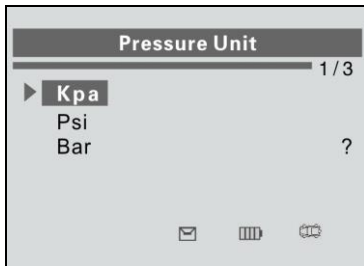

Figure 3.9
- 2) From **Pressure Unit** screen, use the **UP/DOWN SCROLL** button to select the desired unit: Kpa, Psi or Bar. (Figure 3.9)